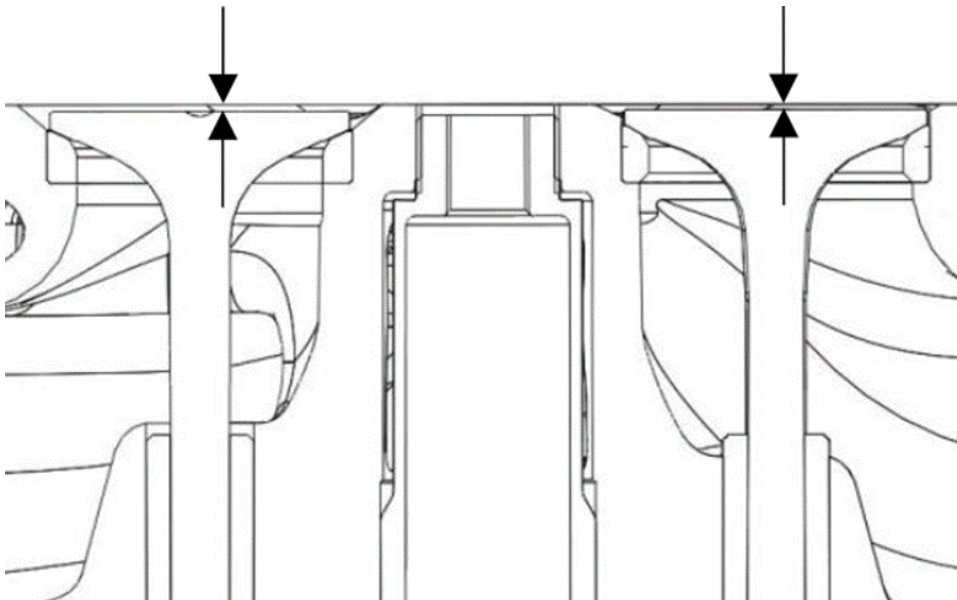

Figure 72. Valve Recession Check
5. Insert the valves into their original locations and press them down until they are fully seated. Use a depth micrometer (Figure 72) to measure the difference between the cylinder head gasket surface and the combustion surface of each exhaust and intake valve. See Cylinder Head specification chart for the service limit.